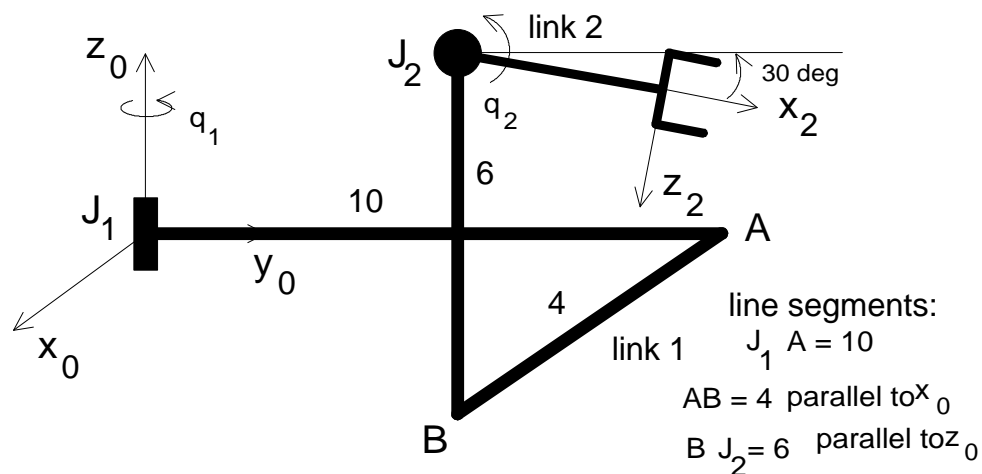

Fig. 6
- b. Fig. 6 shows a robot with two rotational joints  $J_1$  and  $J_2$ . Frame 0 is fixed to ground. The first link (the rigid bent rod  $J_1ABJ_2$  which connects joints  $J_1$  and  $J_2$ ) rotates about the z-axis of frame 0. The bent rod  $J_1AB$  always lies on the xy plane of frame 0. Frame 2 is attached to the end-effector as indicated in Fig. 6. The z and x axes of frame 2 are normal and along the longitudinal axis, respectively, of link 2. The robot is in motion, and at a certain time instant the following are known:
- 1> The robot is at the configuration shown in Fig. 6.